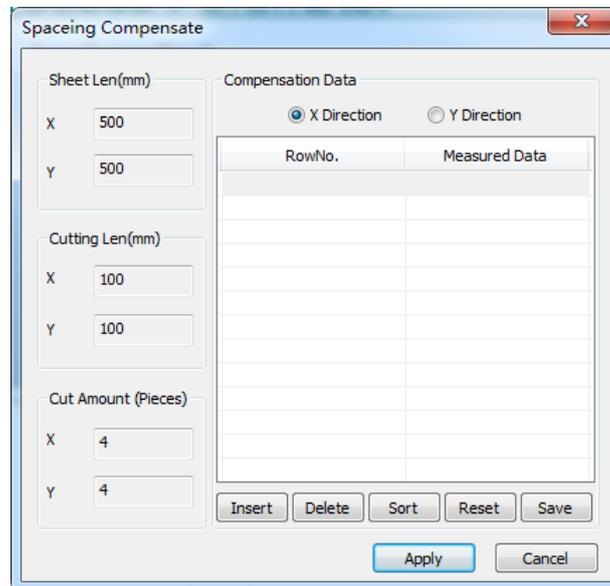

Fig. 4-17 Dialog Box “Spacing Compensate”
- 2) Check **Compensate** under **Change Process Type**, and dialog box “Spacing Compensate” will pop up, as shown in Fig. 4-17. In the dialog box, select X direction, and enter a row No. and the relevant measured data, i.e., data of trial cutting result. Then select Y direction, enter the column No. and relevant measured data. By clicking button **Insert**, you can add a new line for entering data. After entering all the measured data, click button **Save** and **Apply** in turn.